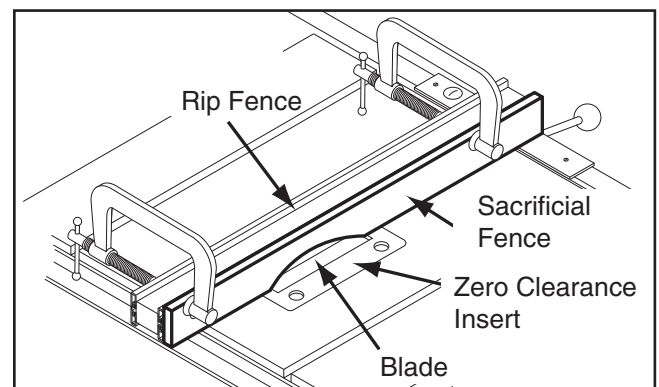

Figure 49. Sacrificial fence.
Note: Rabbet cutting requires the use of a sacrificial fence attachment, as shown in **Figure 49**.
- Attach the sacrificial fence to the rip fence with clamps, as shown in **Figure 49**, making sure they are all secure and tight.